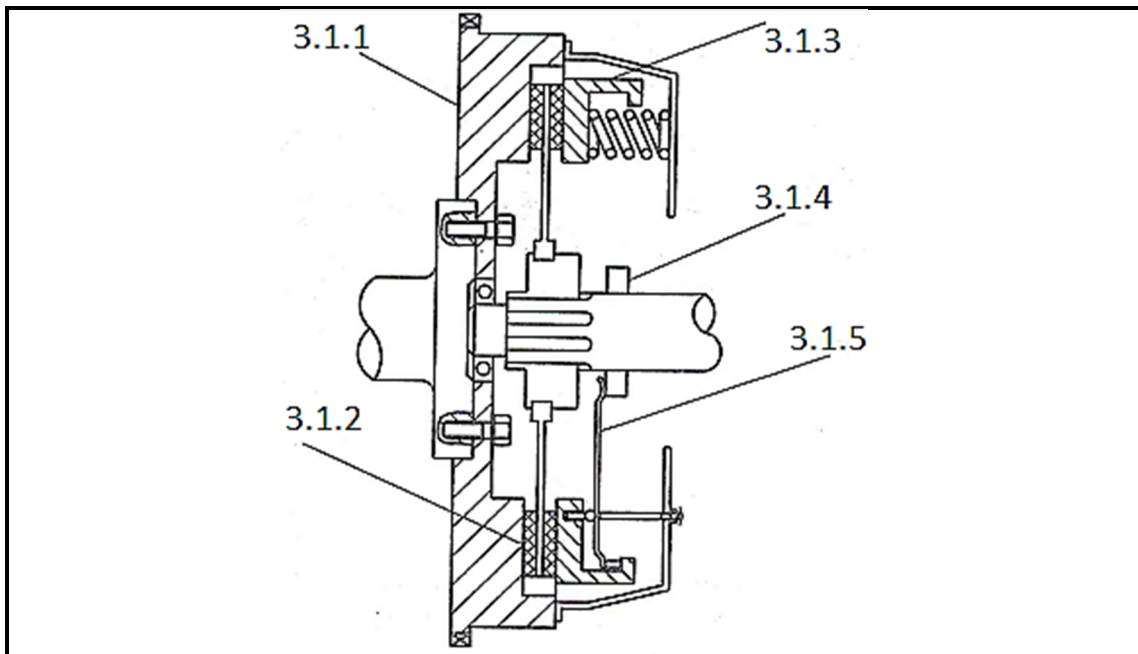

FIGURE 1
3.1 FIGURE 1 shows a sectional view of a single-disc clutch assembly.